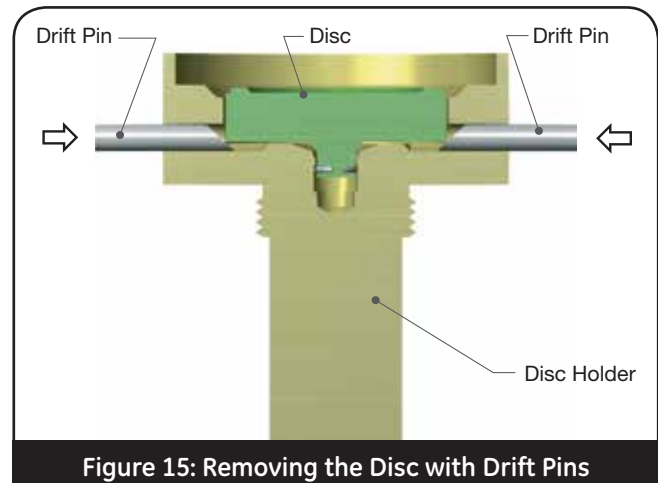

Figure 15: Removing the Disc with Drift Pins
- Start inserting special drift pins into the holes in the disc holder (Figure 15) with the tapered portion of the pins working against the top of the disc, as indicated. See Figure 61 and Table 18 in the Maintenance Tools